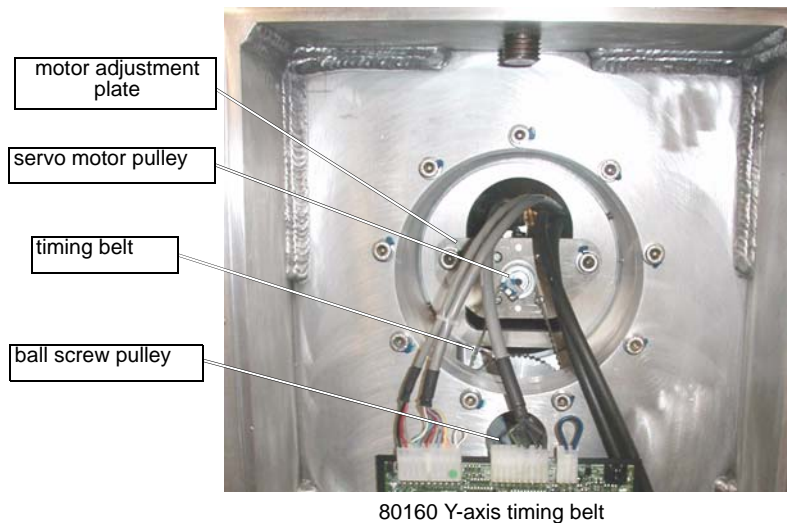

Figure 6-8: Y-axis Servo Motor/Ball Screw Timing Belt Connection for Bridge Tables
Y-axis movement for the Bridge tables use the identical servo motor/ball screw configuration as described previously in Timing Belts for Cantilever Tables. Bridge-style tables include the 80X, 60120, and 80160. See Figure 6-8:
3. Loosen the bellow clamp at the end with the timing belt (see Figure 6-8), leaving the bellows attached on the opposite end.